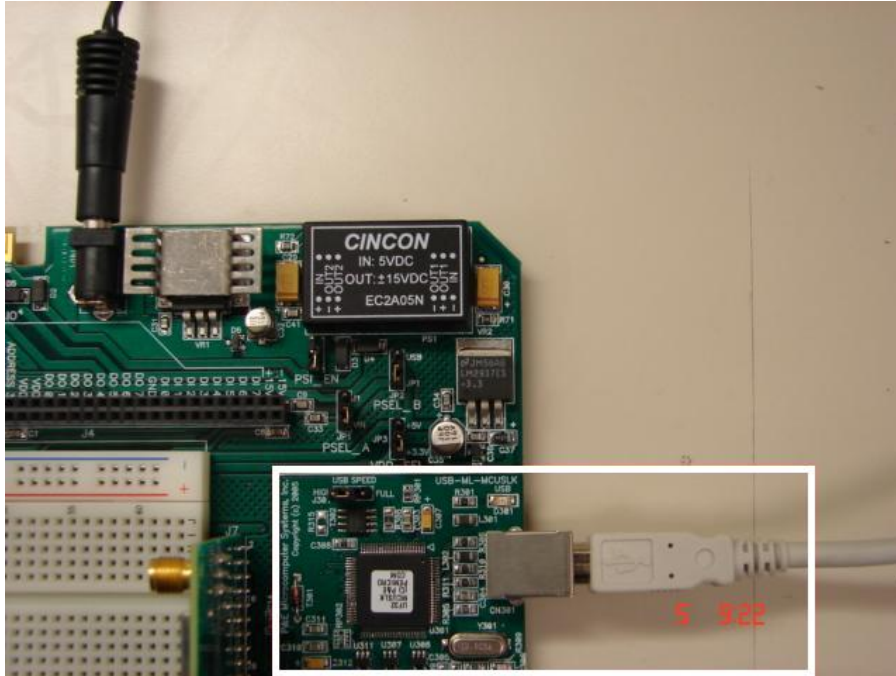

Figure 21 USB Programming Connection for APS12C32SLK
- ◆ In order to programming the device you need to plug in the USB cable into the USB connector on MCU Project Board as pictured in Figure 21